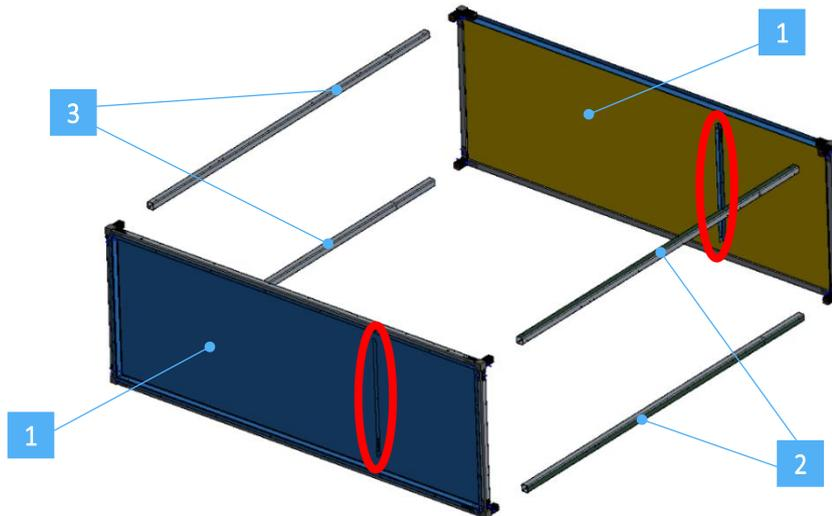
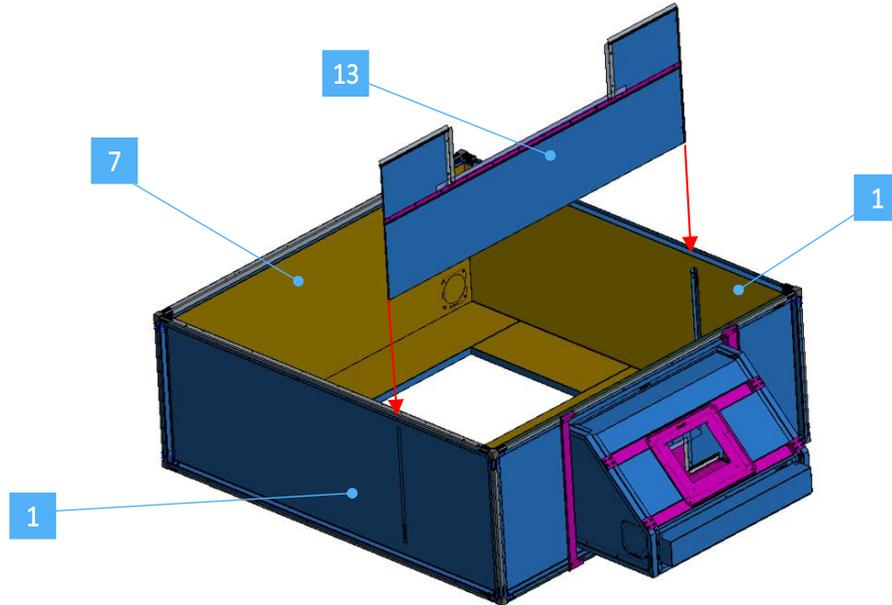

Fig. 4 *Tubes assembly.*
Fig. 13 *Divider panel assembly*
- 1 Take the 4 tubes inside the case: separate those with the threaded inserts [2] from those without [3]. Then take the two pre-assembled panels to the tubes [1] and connect them to the tubes by inserting them into the tenons (figure 4). All the holes on the tubes must be on the outer faces of the box. The tubulars with inserts must be mounted on the short side closer to the metal projections preassembled to the panels [1] (red detail in figure 4). If necessary, use a plastic hammer to completely insert the tenon inside the tube
- 9 Insert the dividing panel [13] (PN 73-00062-01) with the opening facing upwards, the fold of the longer side facing the back panel [7], in the position indicated by the red arrows in figure 13 and fixing it to the magnets on the profiles of the two side panels [1] (red detail in figure 4).